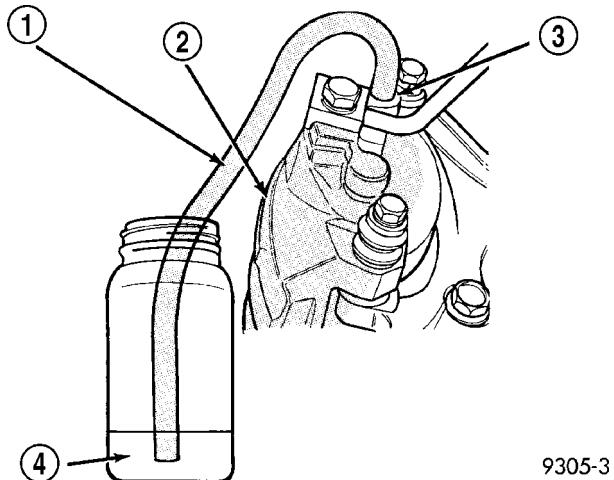

Fig. 2 Proper Method for Purging Air From Brake
(5) Starting at the first wheel circuit as listed earlier, attach a clear hose to the bleeder screw at that wheels brake caliper or wheel cylinder and feed the other end of hose into a clear jar containing enough fresh brake fluid to submerge the end of the hose (Fig. 2).
(6) Open bleeder screw (Fig. 2) at least one full turn or more to obtain an adequate flow of brake fluid.
(7) After 4 to 8 ounces of brake fluid has been bled through the brake hydraulic circuit, and an air-free flow (no bubbles) is maintained in the clear plastic hose and jar, close the bleeder screw.
(8) Bleed the remaining wheel circuits in the same manner until all air is removed from the brake hydraulic system.
(9) Check brake pedal travel. If pedal travel is excessive or has not improved, some air may still be trapped in the hydraulic system. Rebleed the brake system as necessary.
(10) Reinstall all 4 bleeder screw dust caps.
(11) Test drive vehicle to ensure brakes are operating properly and pedal feel is correct.
(1) Remove rubber duct caps from all 4 bleeder screws.
(2) Attach a clear hose to the bleeder screw at one wheel and feed the other end of the hose into a clear jar containing fresh brake fluid (Fig. 2).
(3) Have an assistant pump the brake pedal three or four times and hold it down before the bleeder screw is opened.